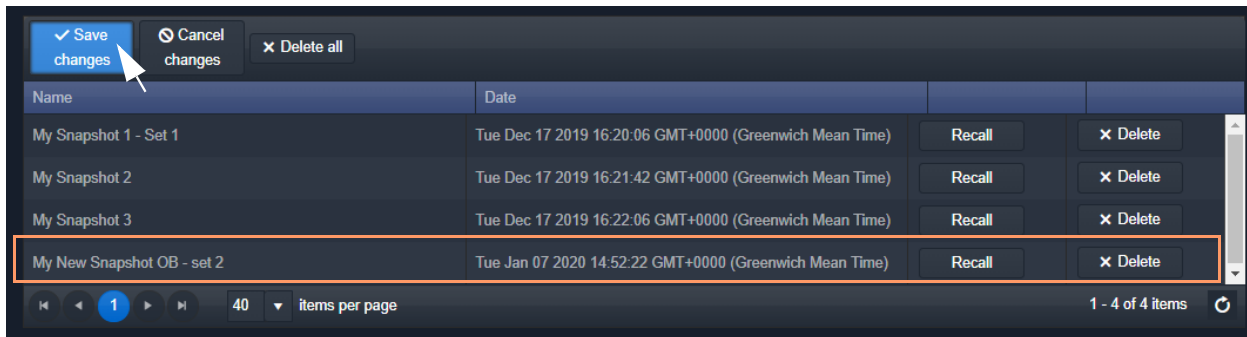

Figure 110: Snapshot Name Changed and Saved
- 3 Click **Save Changes**. (See Figure 110.)